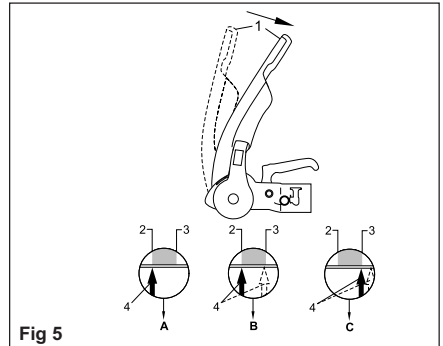

Fig 5
- 2) Open Stabiliser lever (Fig. 5/Item1).
- 4) If the arrow on the arm (Fig. 5/Item 4) is before or on the marked area (Fig. 5/Item 2) the friction pads are still as new (See A)